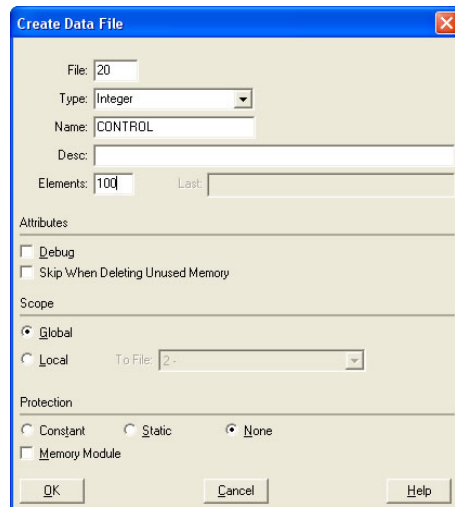

Figure 113: Creating a Control File
- a) Right click Data Files and select New... The “Create Data File” dialog box appears (refer to Figure 113).